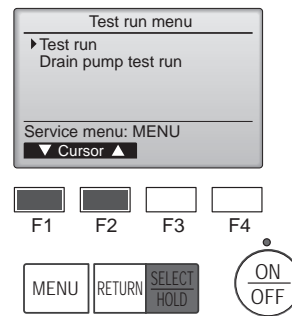

Fig. 7-5
- ④ Select "Test run" with the [F1] or [F2] button, and press the [SELECT/HOLD] button. (Fig. 7-5)